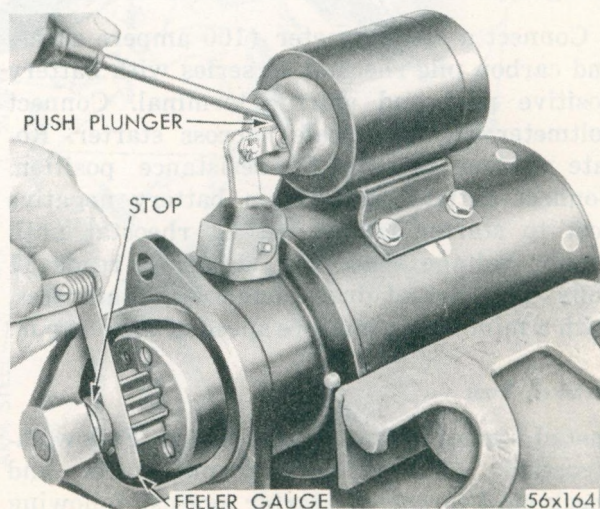

Fig. 5—Adjusting Starter Drive Pinion Clearance
15. ADJUSTING STARTER DRIVE GEAR (PINION) CLEARANCE (FIG. 5)
Place starter assembly in vise equipped with soft jaws and tighten vise sufficiently to hold starter. Push **in** on solenoid plunger link adjusting bolt (**NOT THE FORK LEVER**) until plunger bottoms. Measure clearance between end of pinion and pin stop with plunger seated and pinion pushed toward commutator end (Fig. 5). The clearance should be $\frac{3}{32}$ inch, plus $\frac{1}{32}$ inch or minus $\frac{1}{4}$ inch. Adjust for proper clearance by screwing link **in** or **out** of plunger as required. Bend cotter key and